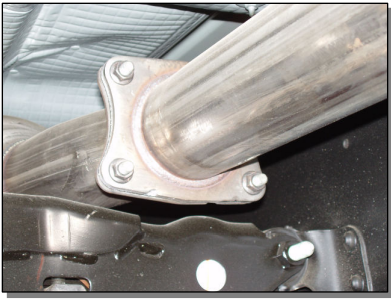

Figure 1
2. Using a 15mm socket or wrench, disconnect the factory exhaust system at the four bolt flange located behind the catalytic converter. If the vehicle is not equipped with a catalytic converter disconnect the four bolt flange located approximately under the passenger side seat. Refer to Figure 1. **Do not discard these nuts as they are required for the installation.**